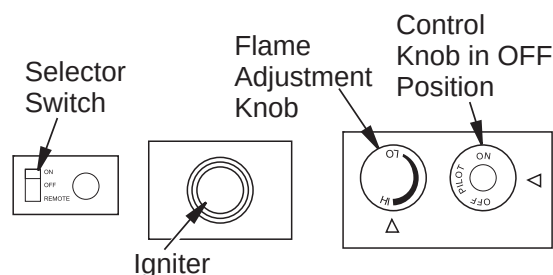

Figure 53 - Control Knob, Igniter Button and Remote Selector Switch
- Wait five (5) minutes to clear out any gas. Then smell for gas, including near the floor. If you smell gas, STOP! Follow "B" in the safety information, column 1. If you don't smell gas, go to the next step.
- Press in and turn control knob counterclockwise ↺ to the PILOT position. Press in control knob for five (5) seconds (see **Figure 53, Page 27**).
After lighting, let pilot flame burn for about one minute. Turn control knob to ON position. Adjust flame adjustment knob anywhere between HI and LO. Slide the selector switch to the REMOTE position (see Figure 53).